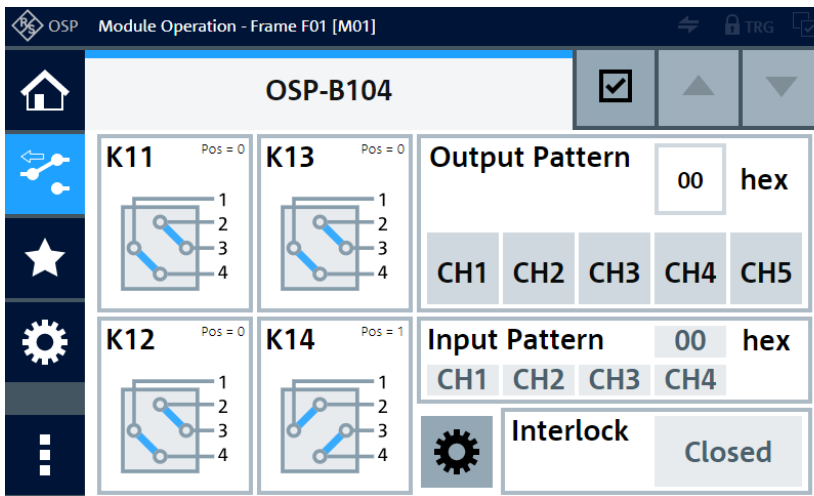

Figure 4-29: Representation of the module on the control screen, the external relays are K11 to K14
- The module's dialog in the firmware (Figure 4-29) and the SCPI command `READ:IO:IN?` can display and query the state of the input channels at any time.
The user interface (Figure 4-29) displays the state of the external relays.
You can read the interlock state of the R&S OSP-B104 (shown on the lower right in Figure 4-29) with the command `READ:MODUle:INterlock?`.
To set individual delay times for each external transfer relay K11 to K14, click the button "Configure Relay Delay Times" in the control screen shown in Figure 4-29. The following dialog opens: